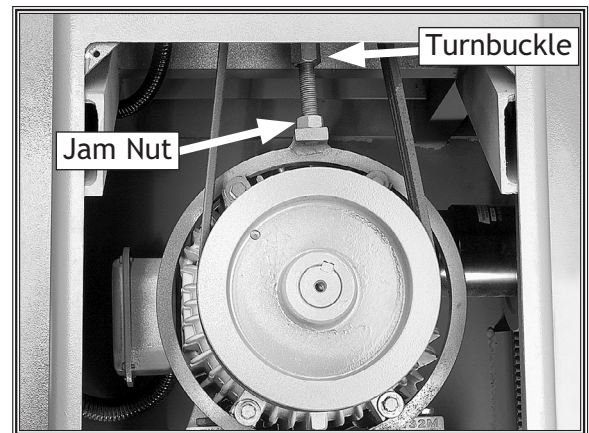

Figure 39. Location of main motor V-belt adjusting fasteners.
3. Loosen the main motor jam nut (**Figure 39**), rotate the turnbuckle to adjust V-belt tension, and re-tighten the jam nut.